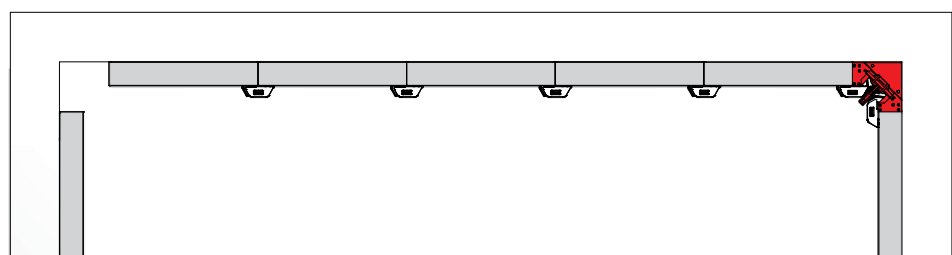

Fig. 35.3
3. Lift the ST stripping corners out of their position, then strip the panels (Fig. 35.3).